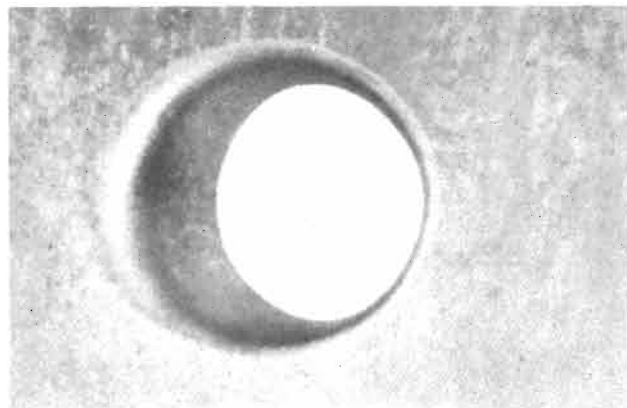

Figure 151 — Bullet Damage to Aluminum-alloy Blades
c. All holes must be cleaned out and blended into the blade surface with generous radii (at least $\frac{1}{4}$ inches). (See figure 151.)